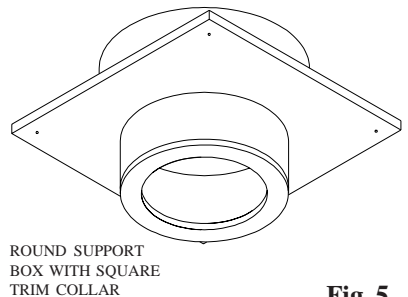

**Fig 3**
2. **Frame Support Opening:** Drop a plumb bob to the center of the appliance's flue outlet and mark this center point on the ceiling. Refer to Table 2 for specific framing and clearance dimensions. Mark appropriate cutting lines around the center point. Cut a square hole in the ceiling for the Support Box. Frame a level, square opening centered over the hole which you have cut. (Figures 3 and 4).